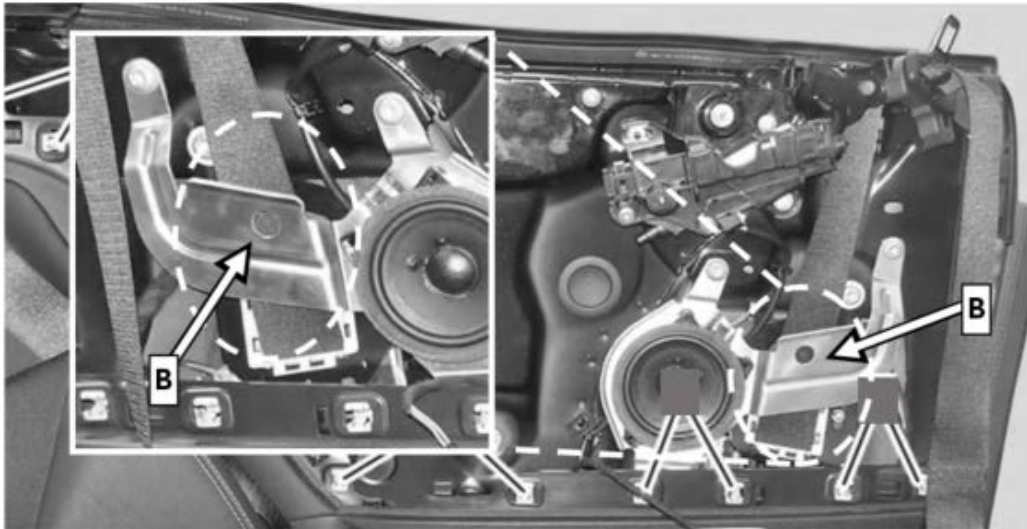

Figure 2
- i A correctly routed seat belt strap **must be routed under** the speaker bracket (B, Figure 2).